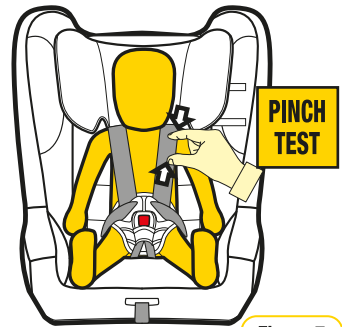

Figure 7
Step 6: Check the harness tightness by the **PINCH TEST**, this is achieved by pinching the harness webbing at the shoulders (refer Figure 7)